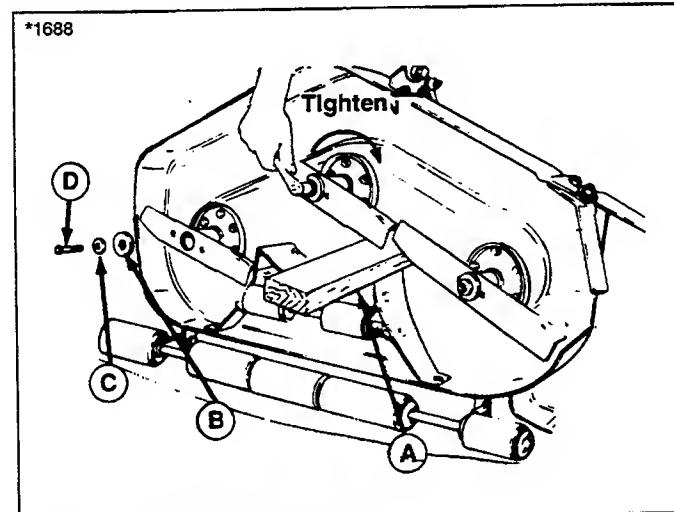

Figure 19. Installing The Blade
6. Reinstall each blade with the tabs pointing up toward deck as shown in figure 19. Secure with a capscrew (D), cup washer (C) and spline washer (B). Use a wooden block to prevent blade rotation and torque capscrews to 50-70 ft.lbs. (67-95 Nm.).